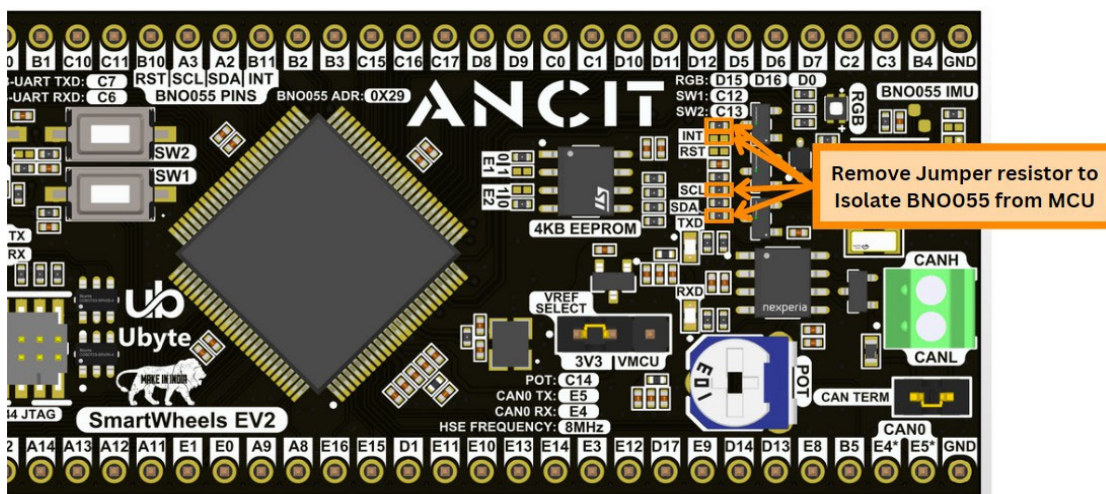

Fig 17 : I2C Address Selection Jumper Resistors
- GPIO pin PTB10 is used to send the Reset signal to the BNO055 IMU and GPIO pin PTB11 is used as an input for interrupt signal from BNO055 IMU. Both these pins of BNO055 are isolated from the S32K144 microcontroller so that the user can use these MCU GPIOs for other applications with external peripherals. However if the user wishes to interface the Reset and interrupt pins of the BNO055 IMU, they need to solder bridge the jumper resistor pads as shown in the Fig 17. above. This will connect the Reset and Interrupt signals from the BNO055 to PTB10 and PTB11 pins of the microcontroller respectively. The user must ensure that the Reset pin of the BNO055 is driver high for normal operation of BNO055 IMU.
- The user can also isolate the BNO055 IMU from S32K144 MCU by removing the jumper resistors as shown in Fig 17. Removing these jumper resistors will effectively disconnect the BNO055 from the S32K144 microcontroller therefore the user can use the PTB10, PTB11, PTA2 and PTA3 without any interference from the onboard BNO055 IMU. The jumper resistors that are used for isolating the BNO055 from S32K144 are also labeled as “INT”, “RST”, “SDA” and “SCL” so the user is able to identify the jumper resistors effectively.